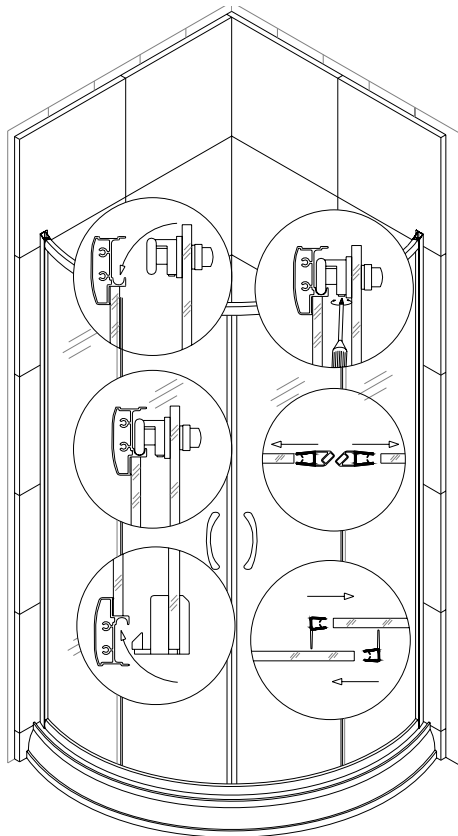
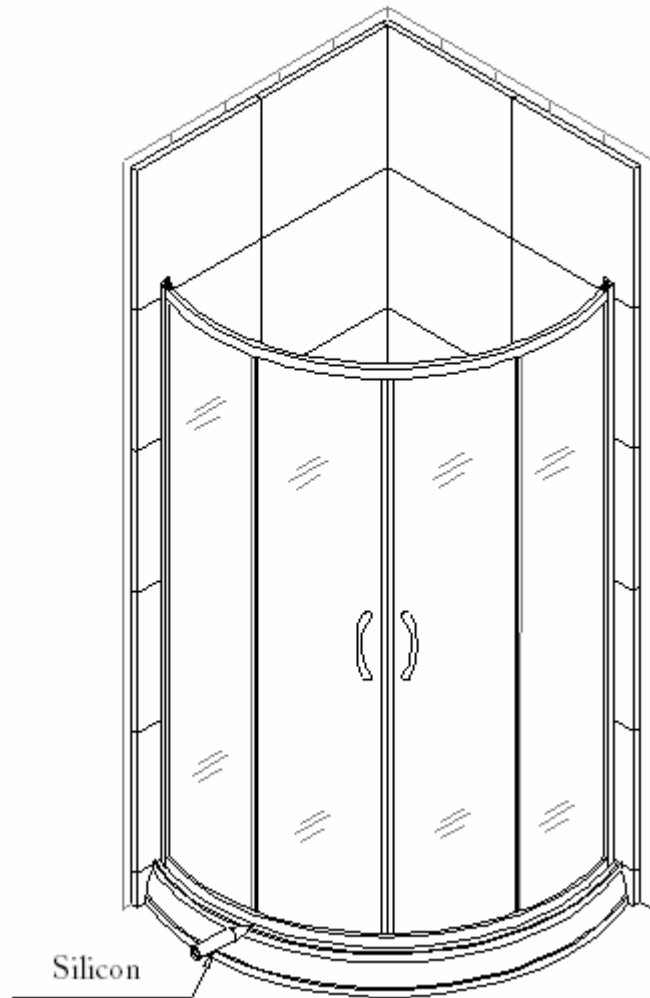

Fig 7
Fig 9
9. Install the Roller assembles and the Hooks on the Glass door. Hang the Glass door on to guide rail (fig 7).
10. Hang the Hooks onto bottom guide rail (fig 7).
11. Adjust the Roller assembly bottom screw up and down to make the door moving smoothly (fig 7).
12. Install Handle (7) on The Glass door.
13. Install Waterproof flanged strip (8). One on the Stationary glass 1 (4) and another on the Glass door (on the side which is opposite of handles).
14. Seal with silicon between Wall profile, Glass Profile, bottom rail and tray (fig 9).